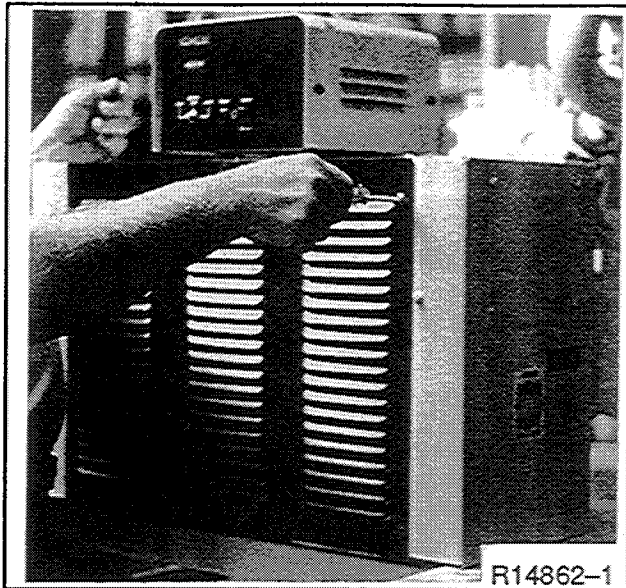

Figure 9-1. Removing Junction Box Rear Panel
2. Remove nine screws securing junction box rear panel and remove panel. See Figure 9-1.